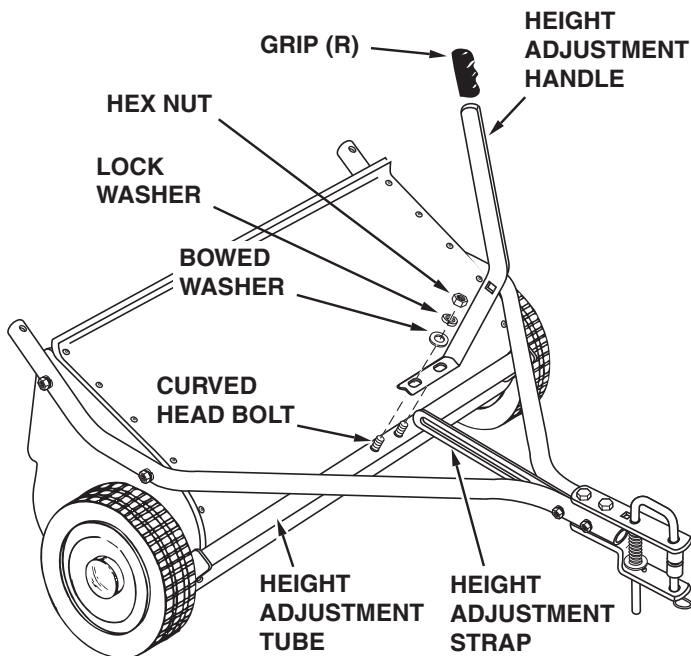

FIGURE 5
- Assemble the height adjustment handle to the height adjustment tube on the front of the sweeper housing. Use the curved head bolts, bowed washers, lock washers and hex nuts which come pre-assembled to the tube. Position the height adjustment handle side to side so that the height adjustment strap will align up against the outside of the handle and then **tighten** the nuts. See figure 5.
- Assemble the grip (R) onto the end of the height adjustment handle as shown in figure 5.